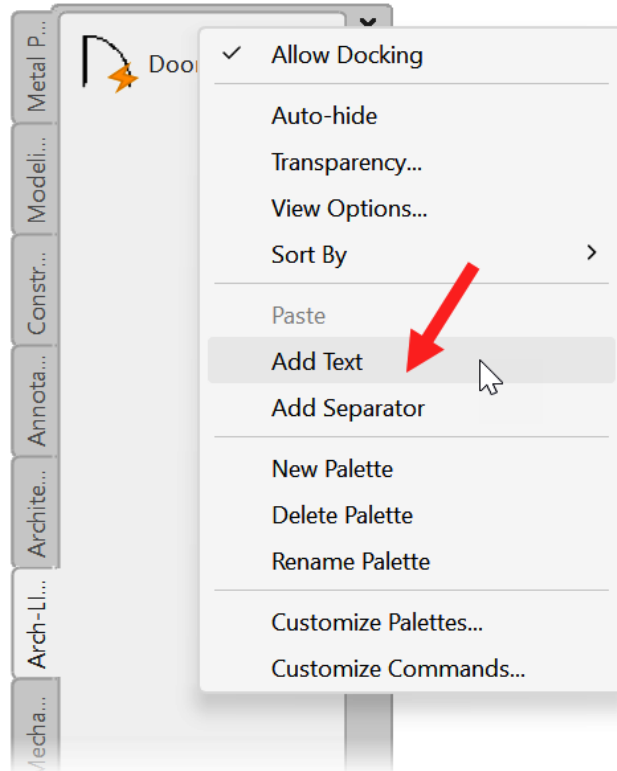

Figure 9.31: The tool palette menu displaying Add Text and Add Separator
11. You can add text and separators to the new tool palette. Right-click in the tool palette area and select **Add Text** or **Add Separator** to do this, as shown in *Figure 9.31*.